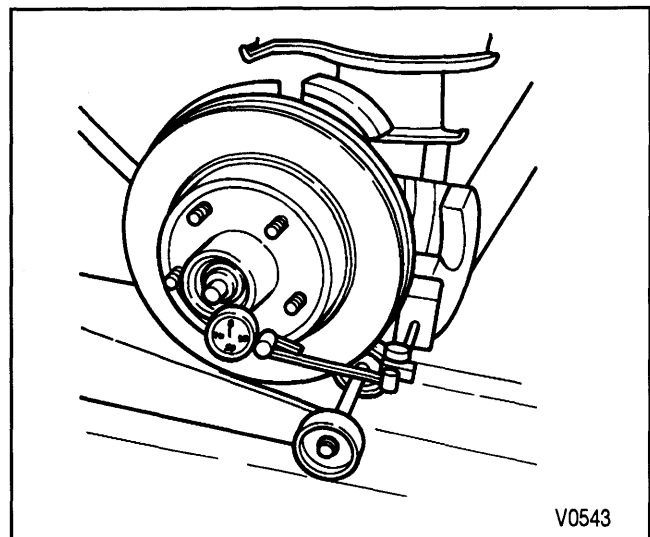

Figure 8—Checking Wheel Bearing Endplay
- The endplay in the hub/rotor assembly (17). Correct endplay should measure 0.03 to 0.20 mm (0.001 to 0.008 inch) (figure 8).
2. Cap (10) to the hub/rotor (17).